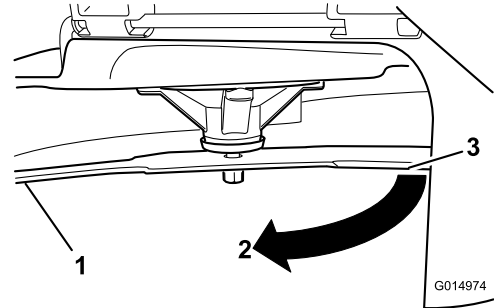

**Figure 62**
2. While wearing thickly padded gloves, or other adequate hand protection, slowly rotate the blade into a position that allows you to measure the distance between the cutting edge and the level surface the machine is on (Figure 62).